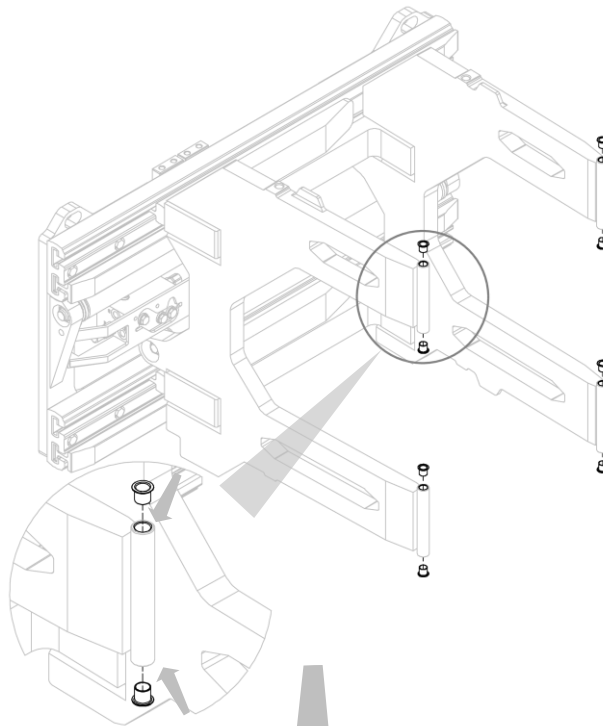
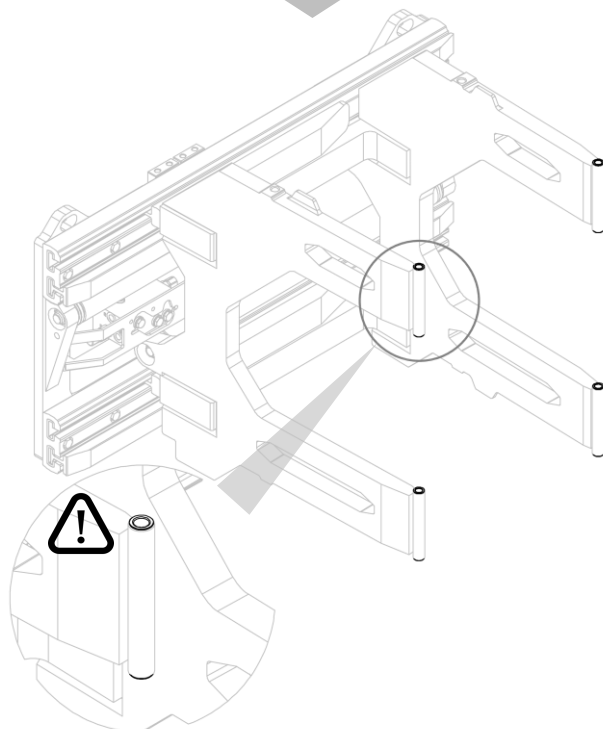

Figure 15
Figure 16
2. Position the swing bushes in the appropriate housings (see *Figure 15* and *Figure 16*).